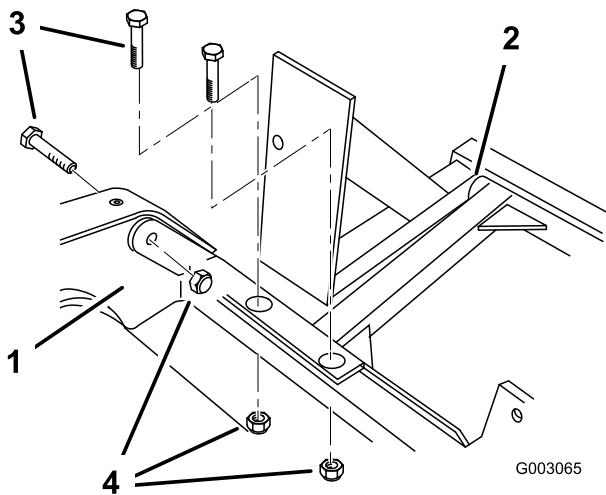

Figure 2
2. Install the center boom to the boom mount frame using 6 bolts (1/2 x 3 inches) and 6 lock nuts (1/2 inch) as shown in Figure 2.